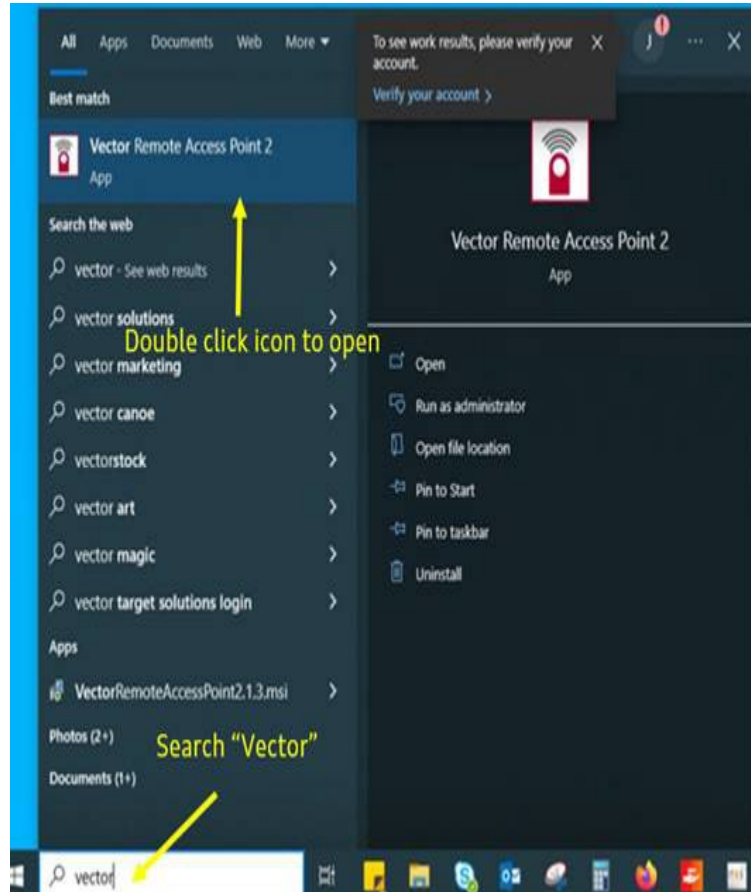

Figure 2: How to access Vector Remote Access Point.
2. Start the Vector access point (see figure 2 above).